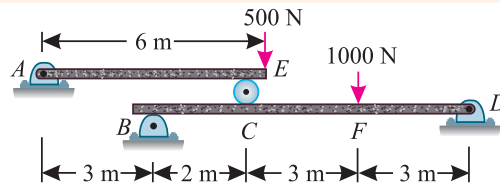

Fig. 16.6.
**Example 16.3.** Two beams  $AE$  and  $BD$  are supported on rollers at  $B$  and  $C$  as shown in Fig. 16.6.